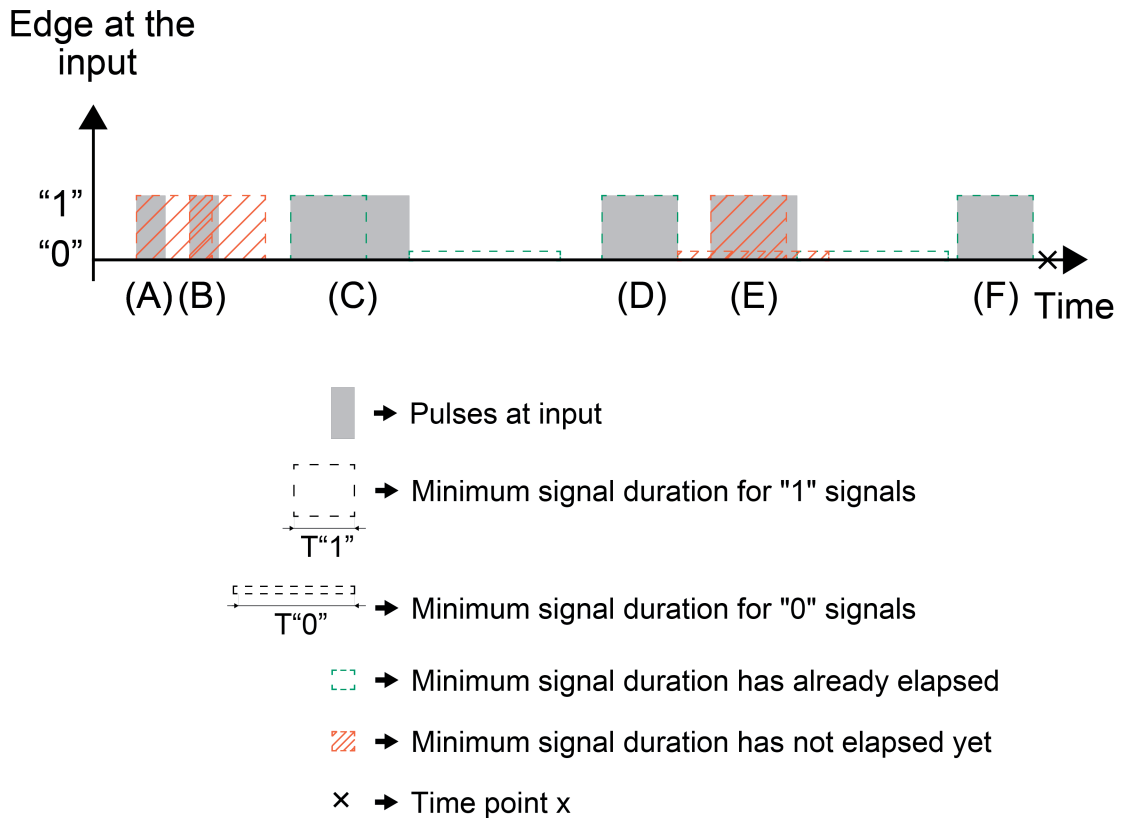

Figure 15: Example for setting the minimum signal duration
**Example for setting the minimum signal duration (figure 15):**